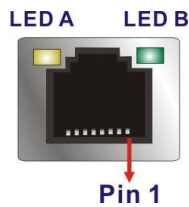

Figure 3-20: LAN Connector
- CN Pinouts:** See **Figure 3-20** and **Table 3-16**